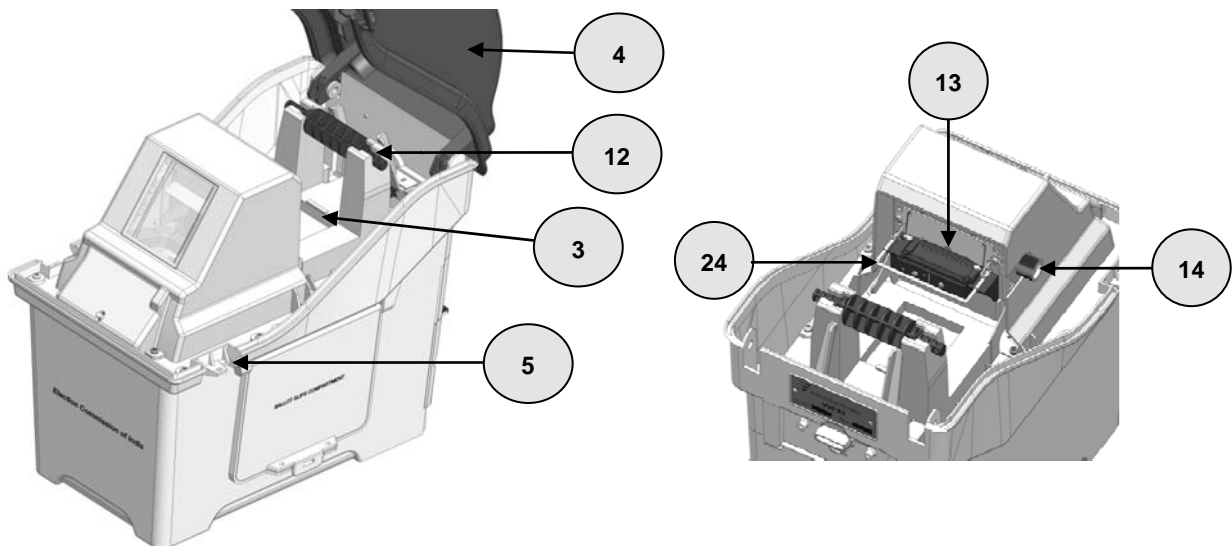

Figure 2.1 - Paper Roll Compartment with Top Cover Opened
- (a) This compartment (3) houses the printer mechanism and paper roll. Top cover (4) of the VVPAT - M3 unit covers the paper roll compartment. A pictorial view of the paper roll compartment is shown in Figure 2.1.